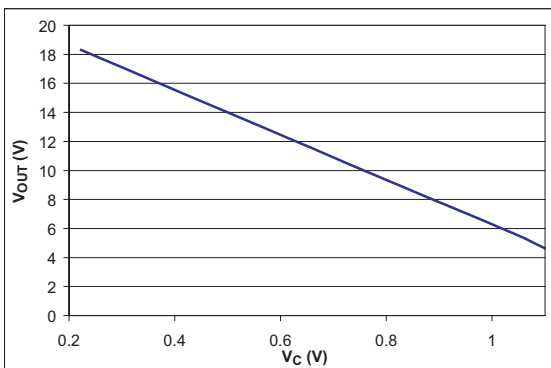
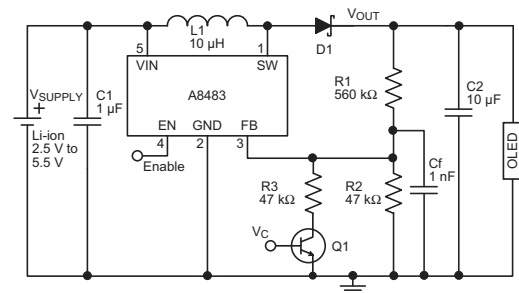
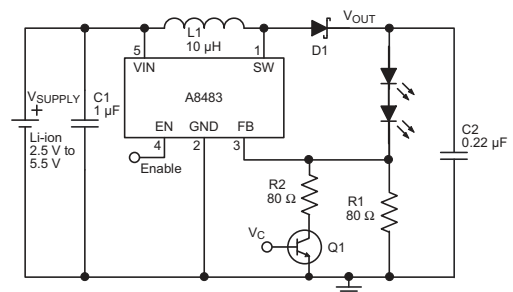

Figure 10. DC Voltage Dimming Control of Duty Cycle. Performance of circuit shown in figure 11.
Figure 12. OLED Dimming Control. Single-bit resolution using external transistor.
Figure 13. WLED Dimming Control. Single-bit resolution using external transistor.
- Apply a constant dc voltage to the FB pin through resistor R3, as shown in figure 12. Variation of output voltage with dc voltage are shown in figure 10.
- Selection of the resistor connected between the FB pin and GND, as shown in figure 12 for OLED applications, and in figure 13 for WLED applications. The voltage drop across the transistor should be negligible compared to the FB sense voltage.